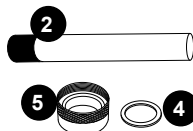

FIGURE 7
5. Remove the quartz seal compression nut (5) by turning it
counterclockwise, Figure 5. Use a pair of channel-lock pliers if needed, Figure 6. You will notice that there is a stainless steel compression washer (4) which slides over the quartz tube, save the washer (4) for later use, Figure 7.